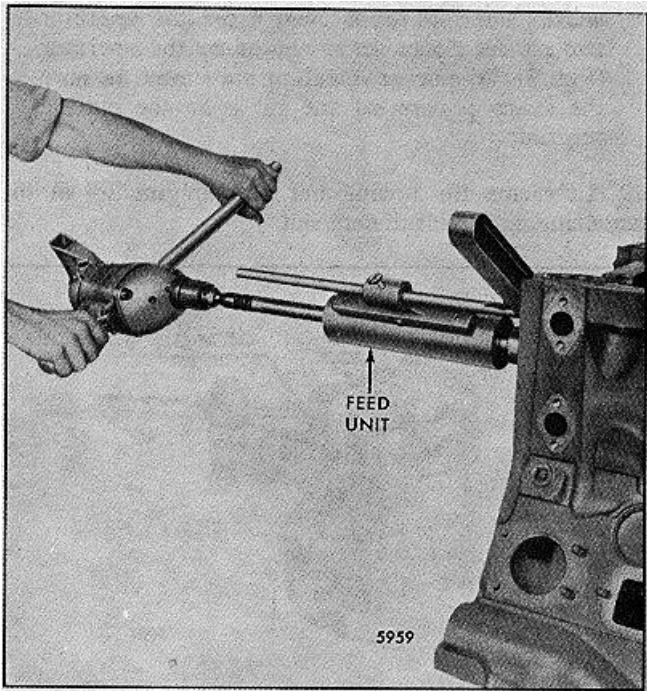

FIG. 8 Use of Hydraulic Feed Unit
11. Use a 1/2 " drill motor of 300-400 RPM and install the universal drive (lubricate) into the drill chuck. Move the hydraulic feed unit lever to the "closed" position (Fig. 8).